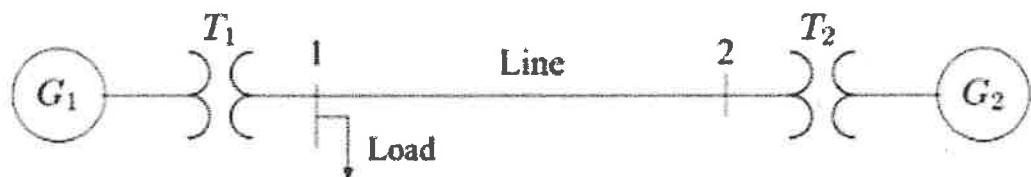

Figure Q1.
- Draw the impedance diagram for the power system shown in Figure Q1 and calculate all impedances in per unit on a common 100 MVA base. Use 20 kV base voltage for the generator G_1 . The three-phase power and line ratings are given below: